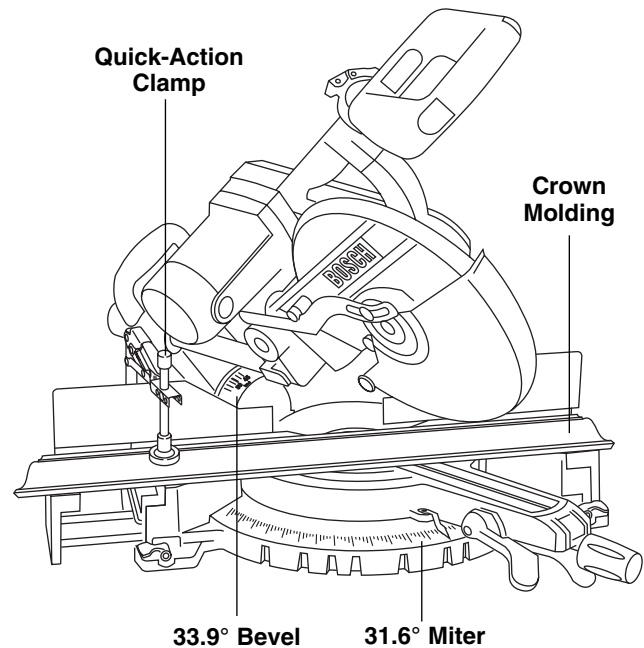

Figure 35. Crown Molding Laying Flat
1. For 90° corner, set the bevel and miter angles using Charts below. Tighten the miter lock knob and the bevel lock lever (Figure 35).